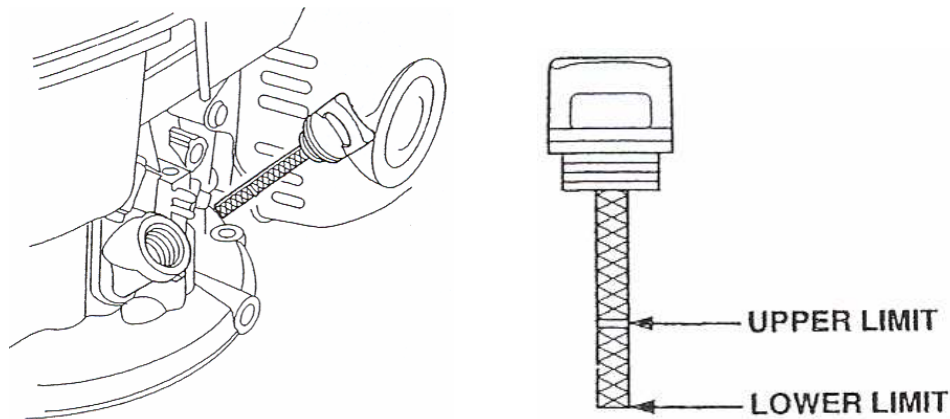

Figure 5
Before each use, ensure that the oil level is between the *Lower* and *Upper limit* marks on the dipstick (Fig.5)
6. Insert the dipstick into the filler neck **BUT DO NOT SCREW IT IN**. Then remove the dipstick and read the oil level. (Fig. 5)
1. Make sure the engine is filled with oil (Fig.5)